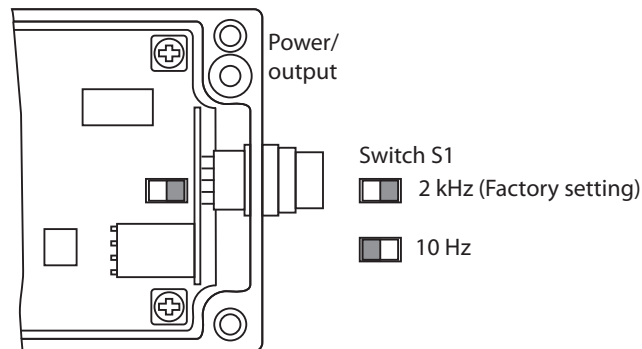

Fig. 9 Frequency Response
- ➡ Shift the switch S1 in the left position, see Fig. 9.